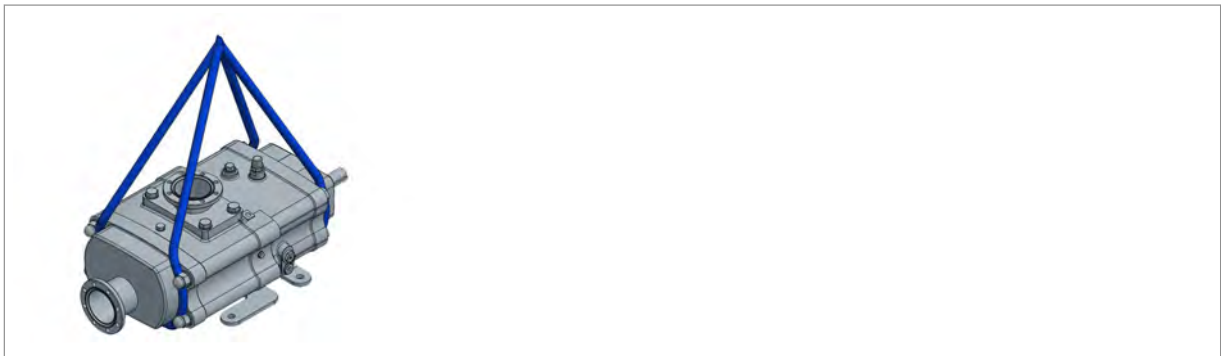
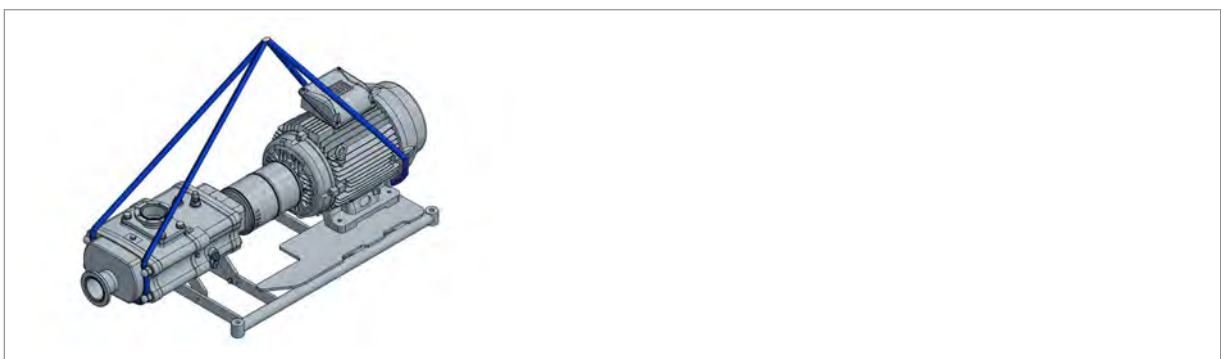

Fig. 4: Lifting the pump
Fig. 5: Lift the pump assembly
1. ➤ Fasten cables, straps or multi-point hangers in accordance with Fig. 4 or Fig. 5.